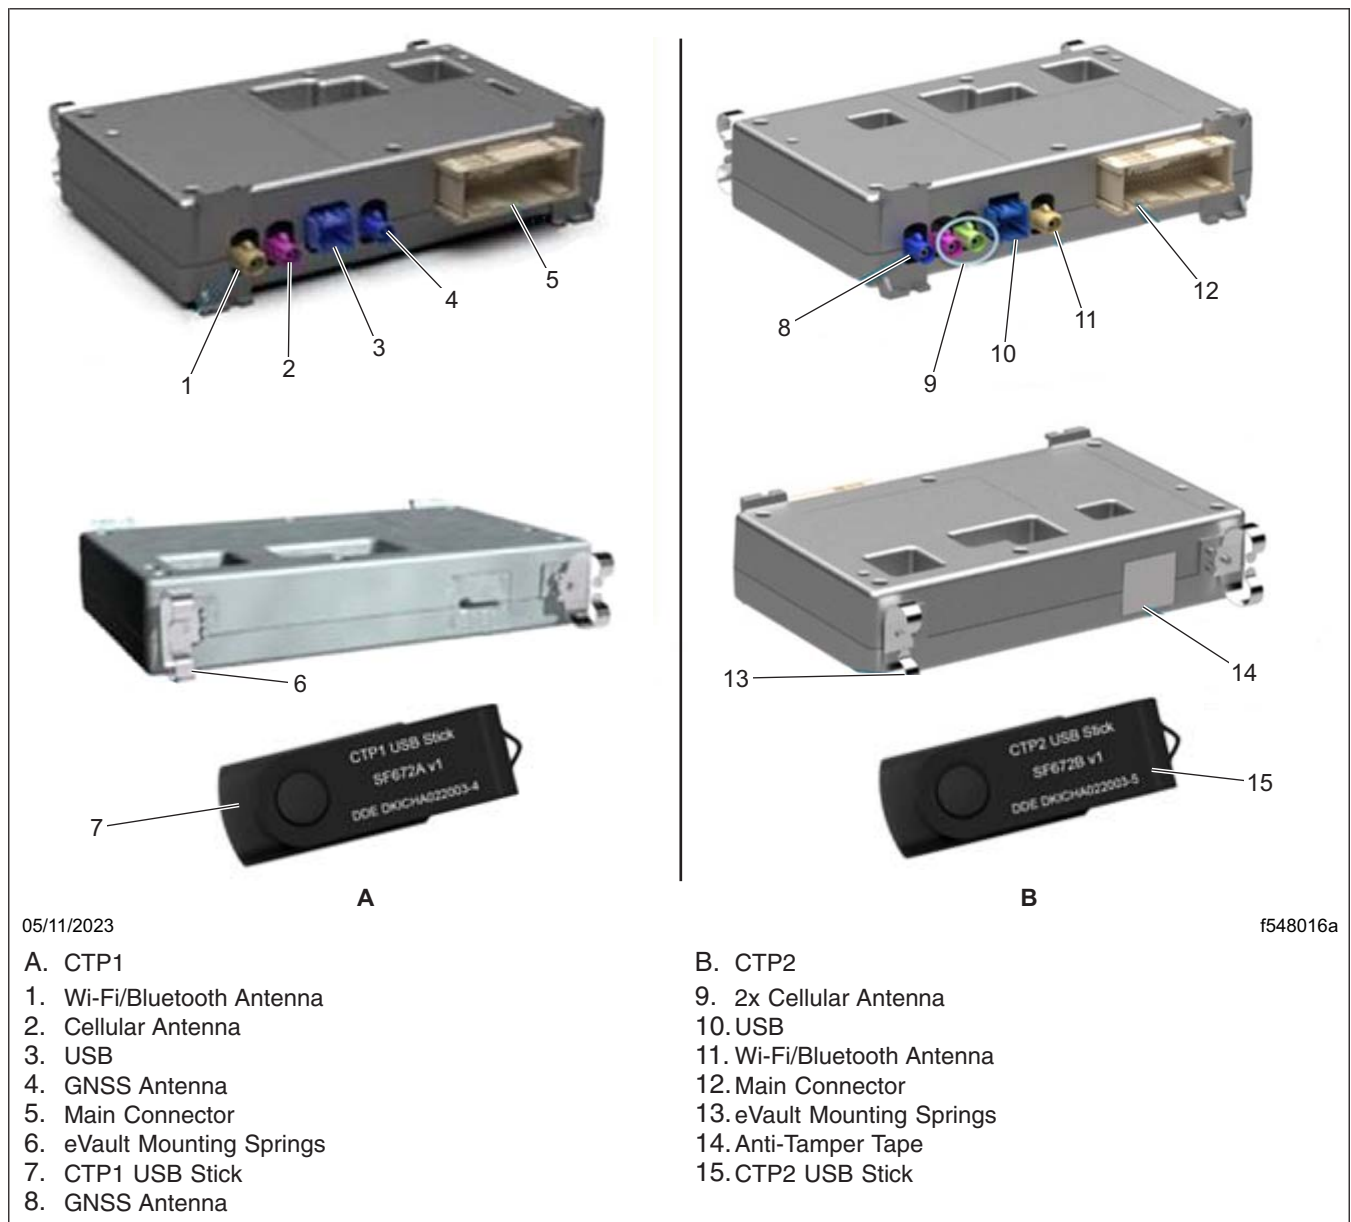
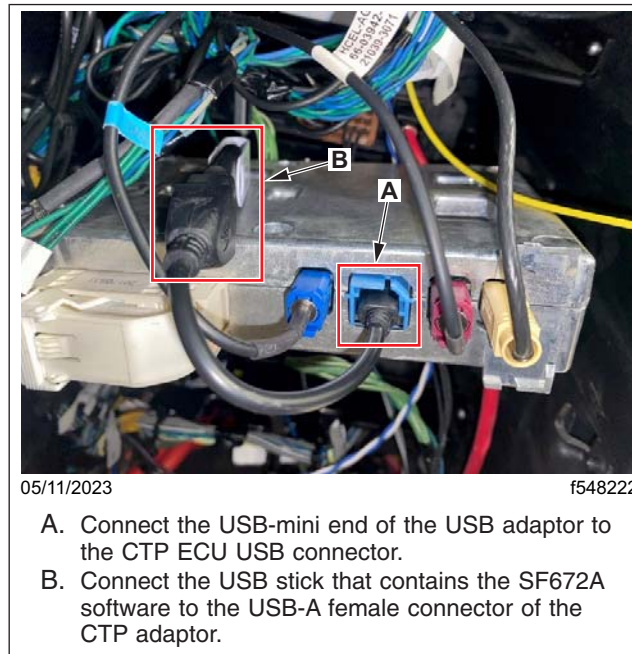

Fig. 12, CPT1 and CPT2 Connections
Fig. 13, USB Stick Connected to CTP1
14. Locate the CTP1 on the upper shelf in the electronics bay. Use Fig. 12 to confirm that a CTP1 is installed and can be updated using the SF672A/CTP1 USB stick (DDE DKICHA022003-4). Use a USB mini-to-USB A adaptor (DKICHA022003-1) to connect the SF672A/CTP1 USB stick (DDE DKICHA022003-4) containing the SF672A software to the CTP1 at the large blue USB mini connector. See Fig. 13.